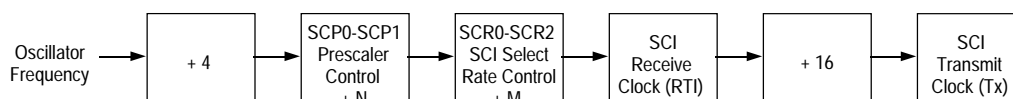

Figure 7-2. Rate Generator Division
Data transmission is initiated by a write to the serial communications data register (SCDR). Provided the transmitter is enabled, data stored in the SCDR is transferred to the transmit data shift register. This transfer of data sets the transmit data register empty flag (TDRE) in the SCI status register (SCSR) and may generate an interrupt if the transmit interrupt is enabled. The transfer of data to the transmit data shift register is synchronized with the bit rate clock (Figure 7-2). All data is transmitted least significant bit first. Upon completion of data transmission, the transmission complete flag (TC) in the SCSR is set (provided no pending data, preamble or break is to be sent), and an interrupt may be generated if the transmit complete interrupt is enabled. If the transmitter is disabled, and the data, preamble or break (in the transmit data shift register) has been sent, the TC bit will also be set. This will also generate an interrupt if the transmission complete interrupt enable bit (TCIE) is set. If the transmitter is disabled in the middle of a transmission, that character will be completed before the transmitter gives up control of the TXD pin.